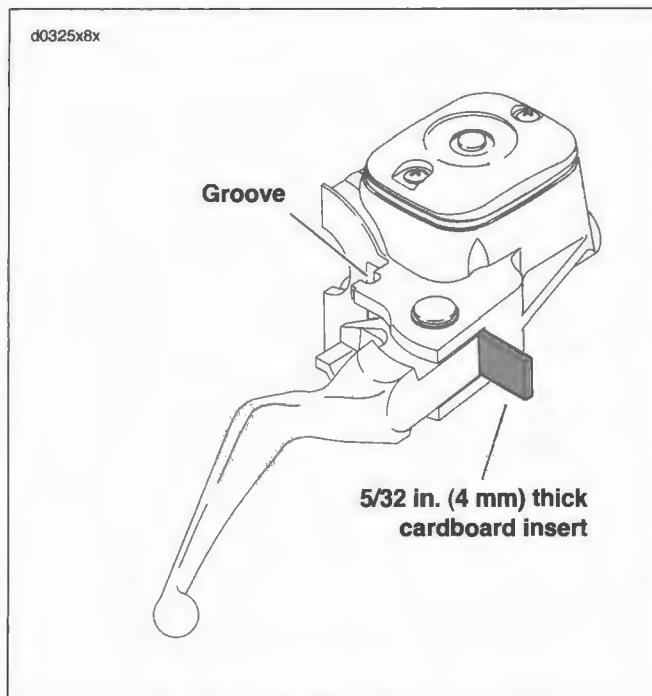

Figure 2-52. Cardboard Insert
3. See Figure 2-52. Place the cardboard insert between the brake lever and lever bracket.